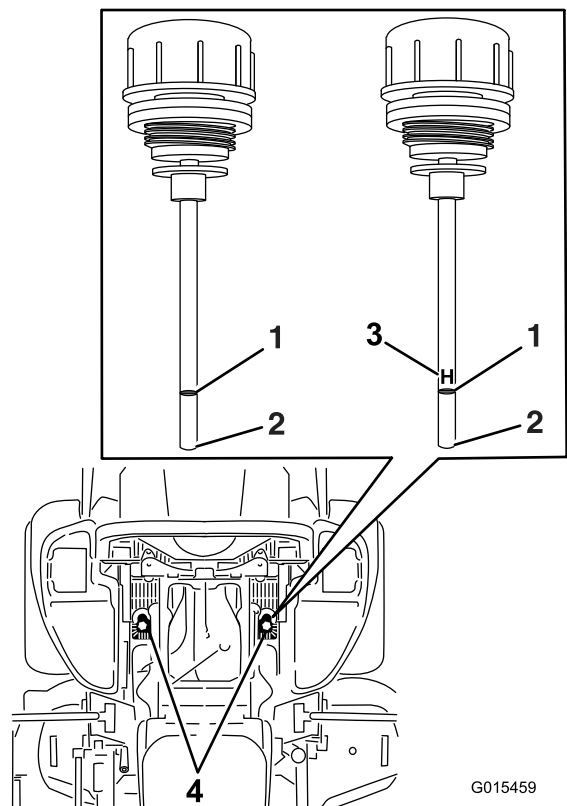

Figure 86
5. Clean the area around the dipsticks of hydraulic-system reservoirs (Figure 86).
6. Remove 1 dipstick from the hydraulic reservoir (Figure 86).
8. Remove the dipstick and look at the end (Figure 86).